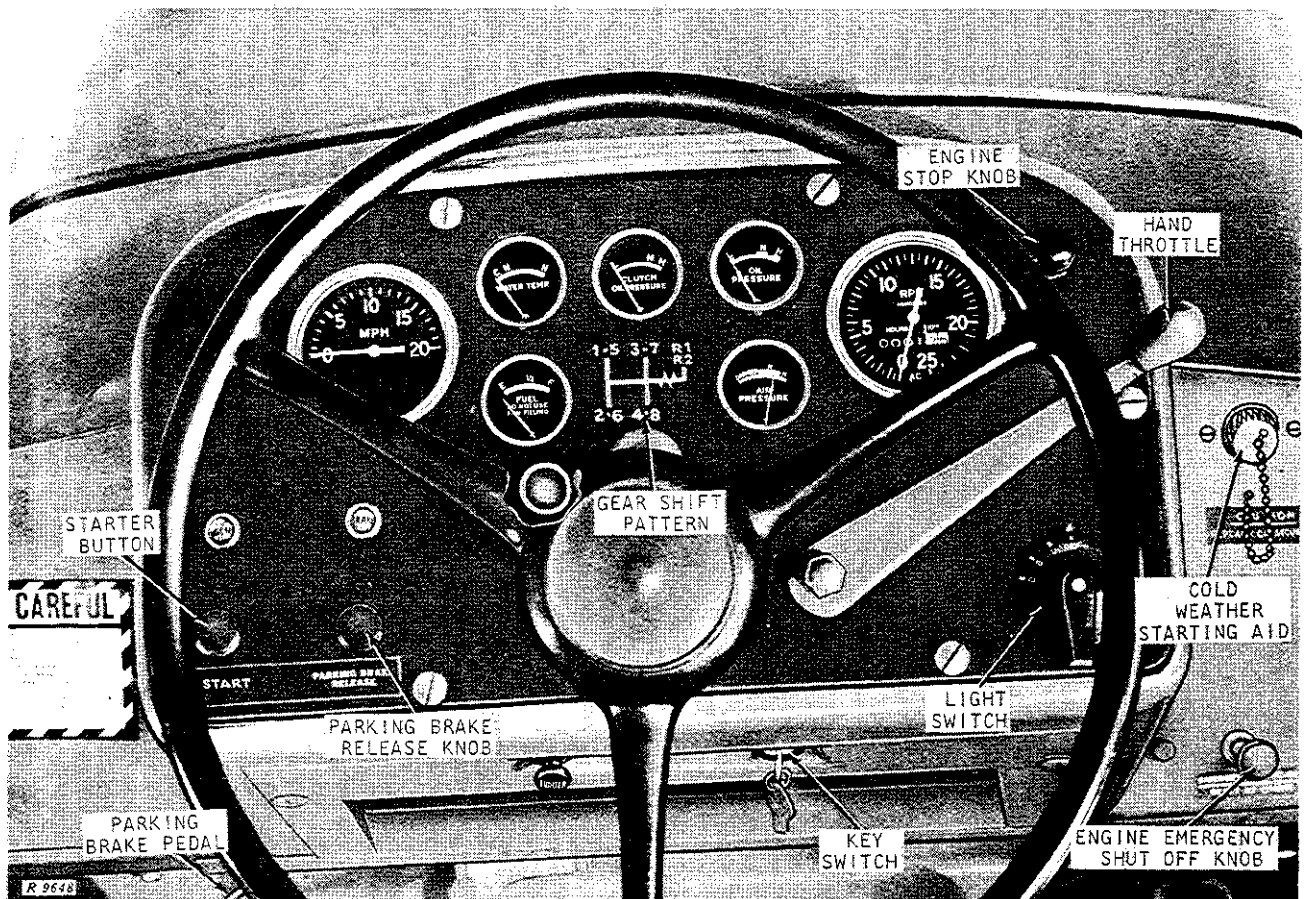

Fig. 10-10-1—Controls
This switch (Fig. 10-10-1) controls the entire electrical system of the tractor. The electrical equipment on the tractor will not operate until the key switch is turned on. When the key is turned to the "ON" position, the fuel gauge is activated and current is made available to the starter and light switches and generator, parking brake, and low air and/or low engine oil pressure warning lamps.
The covered tube (Fig. 10-10-1) on the side of the right cowl panel leads to the engine air intake system. During cold weather, ether is sprayed into this tube to help start the engine.
The hand throttle (Fig. 10-10-1) controls engine speed. Pulling the lever down increases engine speed; pushing it up decreases engine speed to slow idle.
This knob is located on the instrument panel (Fig. 10-10-1). The engine is normally stopped by pulling out on this knob.
In rare instances, it may not be possible to stop the engine in the regular manner. In this case, the engine can be stopped by pulling out on the knob located on the right cowl panel (Fig. 10-10-1). Pulling this knob cuts off the engine air supply, causing it to stop.
The mechanically operated parking brake is activated by the pedal at the extreme left-hand side of the platform, (Fig. 10-10-1). When depressed, the pedal applies the brake and automatically locks it in the applied position.
The parking brake is released by pulling this knob (Fig. 10-10-1).
The light switch (Fig. 10-10-1) is used to turn on the lights.
(2) Make sure fuel shutoff valve on the bottom of the fuel tank is open.
(3) Place shift lever in neutral and depress the clutch pedal to decrease drag on the engine. During cold weather, disengage the hydraulic pump by pulling up on the hydraulic pump disconnect knob.
(4) Pull the hand throttle down to full-open position to set injector racks and insure delivery of fuel to the injectors. Then move the throttle back to idle position (as far up as it will go).
(5) Turn key switch on. Press starter button (Fig. 10-10-1) to crank the engine. Do not hold button in start position for more than 30 seconds at a time. To do so may overheat the starter. If the engine does not start the first time, wait a minute or so before trying again. This will allow the starter to cool.
To start the engine in cold weather, remove the cap from the cold weather starting aid adapter on the right cowl panel (Fig. 10-10-1).